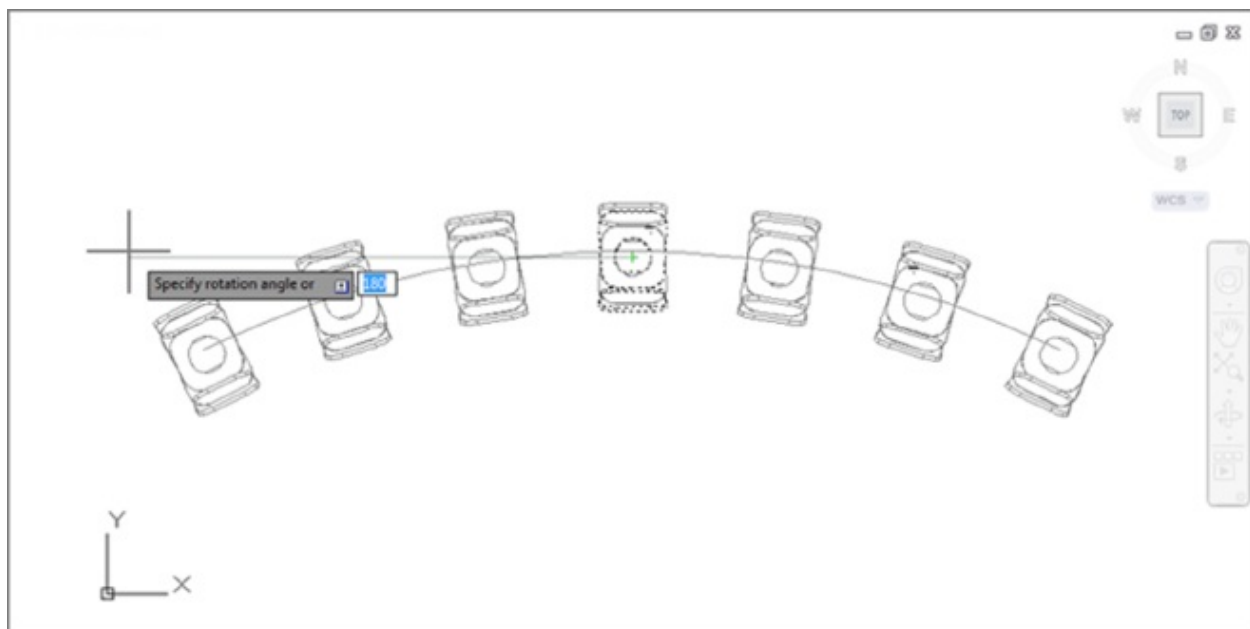

FIGURE 6.15 Rotating the chairs
7. Rotate the chair so that all of the chairs are facing the center of the arc, as shown in Figure 6.15.